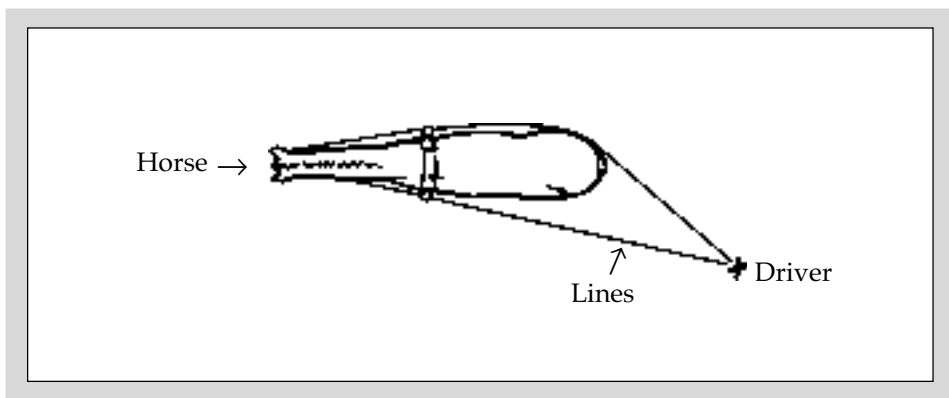

Figure 11. Ground Driving Position.
Attach the driving reins. In order to have better control over the rear quarters, run the reins through the shaft loops that have been tied to the bellyband, and attach to the snaffle bit (see Figure 11). Standing about three (3) feet to the side and rear of the horse, begin ground